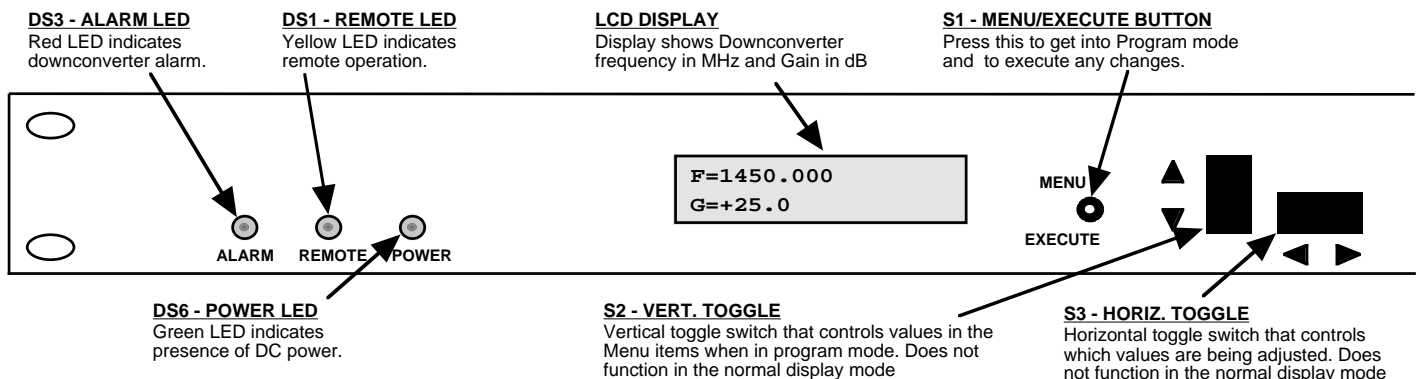

FIGURE 2.3 2016-24 Front Panel Controls and Indicators
Figure 2.3 shows the front panel controls and indicators.
6. Be sure DS6 (green, DC Power) is on and DS3 (red, Alarm) is off (Figure 2.3).
Alarm indications appear on the LEDs (see figure 2.3).